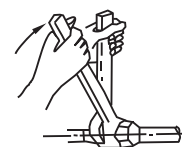

Fig.7-3
- Put the connecting tubing at the proper position, wrench the nuts with hands then fasten it with a wrench. (Refer to Fig.7-3).